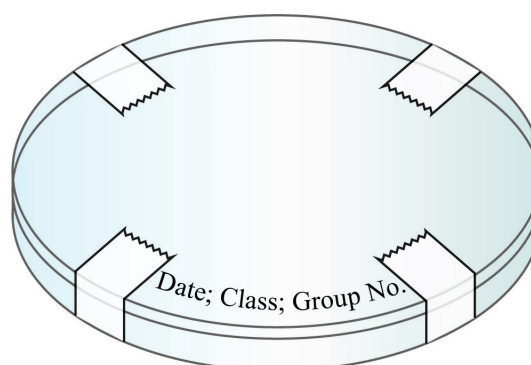

Fig. 28
23. Stick short strips of adhesive tape at opposite edges of the agar plate to hold the lid and base together as shown in Fig. 28. Invert the plate and incubate it at room temperature* or in an incubator set at 25–30°C for 2–3 days.